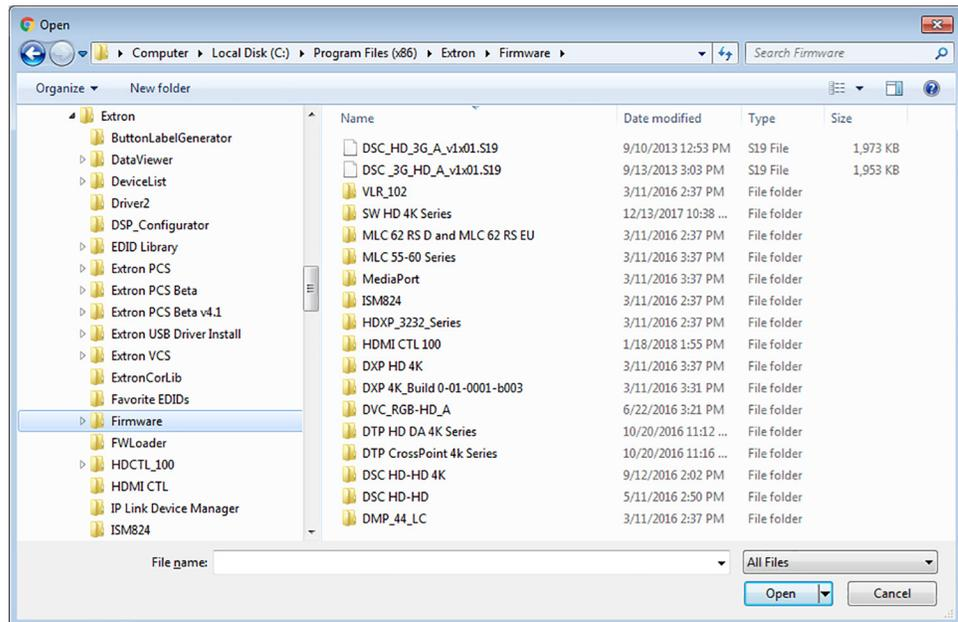

Figure 85. Open Browse Window for Firmware Loading
2. Click the **Browse** button (see figure 85, ①). The **Choose File to Upload** window opens.